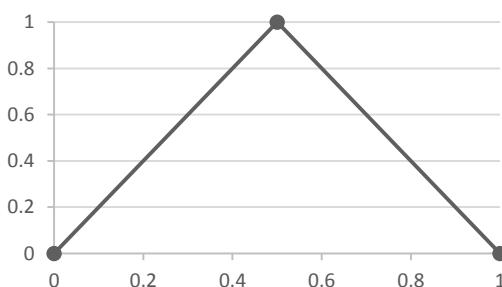

Figure 6 - Amplitude example
This defines the amplitude ‘AMPLITUDE’ with three data points, where ‘x’ is the step time for the input and ‘y’ is the input value to be multiplied with the load value. For example the values (0,0), (0.5,1) and (1,0) would apply the load fully (1) halfway in the step, with complete unloading at the end of the step (0), illustrated in figure 6.